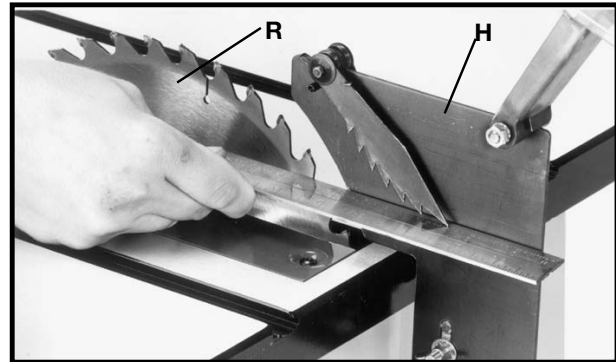

Fig. 21
9. Using a straight edge, check to see if the splitter (H) Fig. 21, is aligned with the saw blade (R). If an adjustment is necessary, the splitter (H) can be moved left or right and rotated.